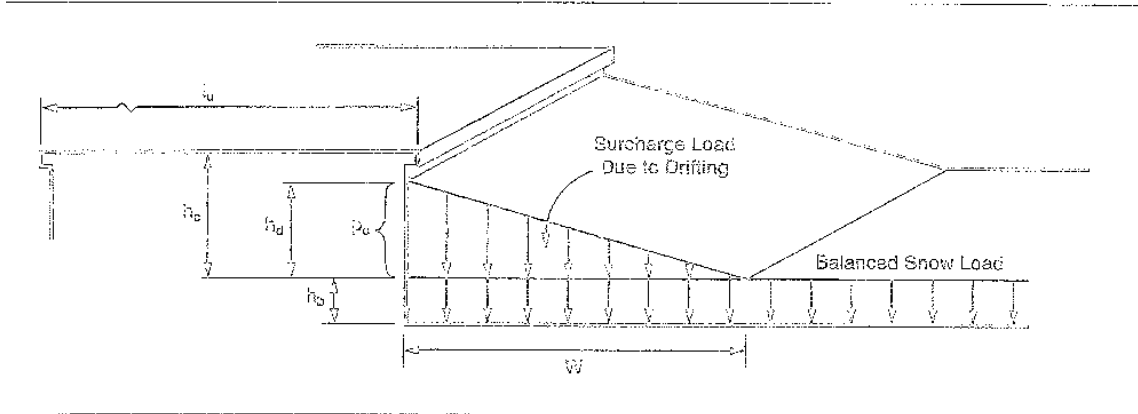

FIGURE 7-8 Configuration of Snow Drifts on Lower Roofs.
- please refer to ASCE 7-10, Figure 7-8
- ASCE Figure 7-8 (N.T.S.)